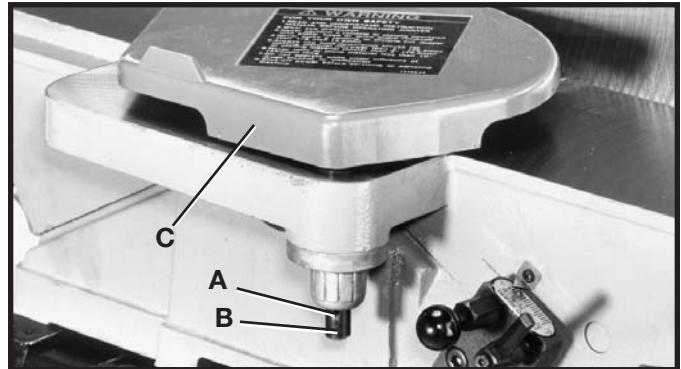

Fig. 24
3. Replace set screw (A) Fig. 24, which was removed in **STEP 1**.
4. Fig. 24, illustrates the cutterhead guard (C) assembled to the infeed table.